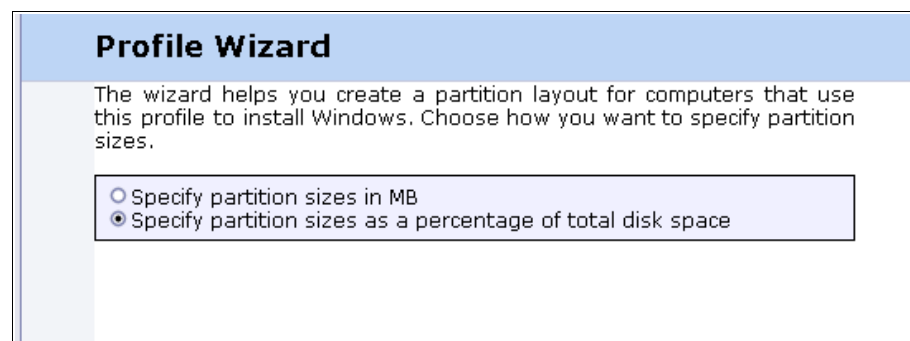

Figure 2-11 Disk partition sizing question
8. Next we are prompted to define the partition size that will be used for the Windows XP installation. This can be defined as an absolute value or as a proportion of the available space. As you are unlikely to know the size of all target disks, we recommend that you specify to use 100% of the disk as shown in Figure 2-11 on page 26.